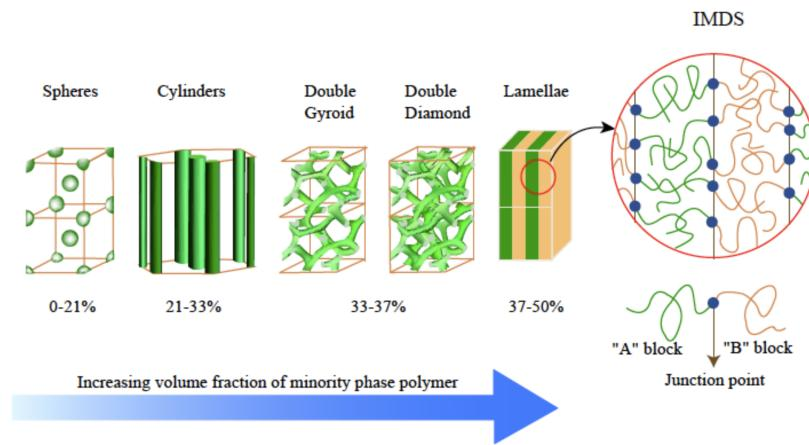

Figure 2.18: Microphase morphologies in diblock copolymers.
- In contrast to Figure 2.18, 40-60% gets you a lamellar state. This accounts for the fact that going on either side of 50% is equivalent.